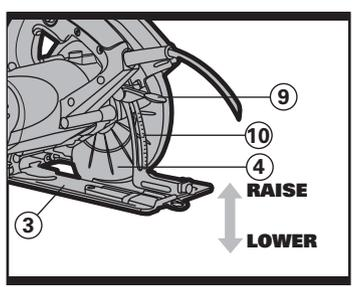
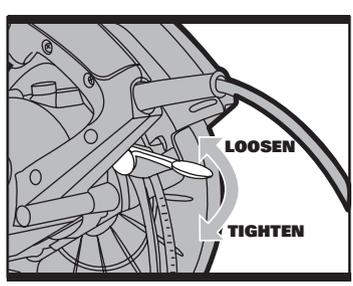

Fig 3
Fig 4
Lift the depth of cut locking lever (9) and raise the saw body away from the base plate (3). Set the depth of cut using the scale (10) and push the lever (9) down to lock (See Fig 3 and Fig 4). Always add 1/8" (3mm) to your depth of cut so the blade can cut through the material.